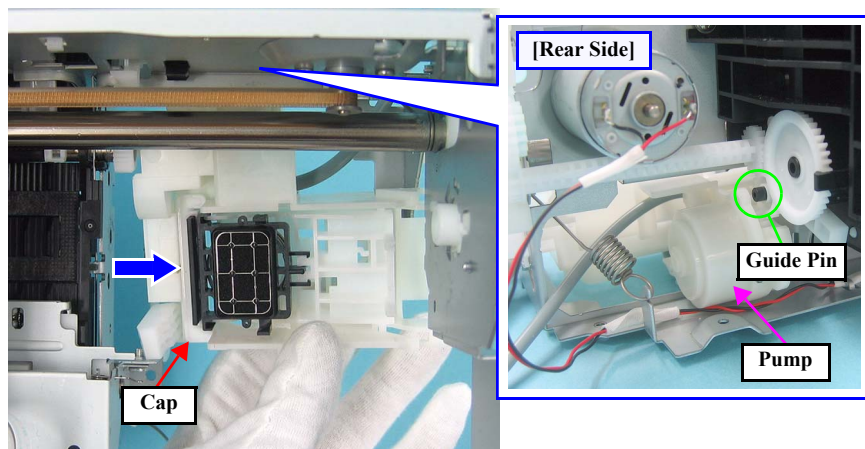

Figure 4-69. Removing the Ink System (2)
- Insert the positioning hole of the Ink System shown in Fig.4-69 over the guide pin of the ASF Unit.